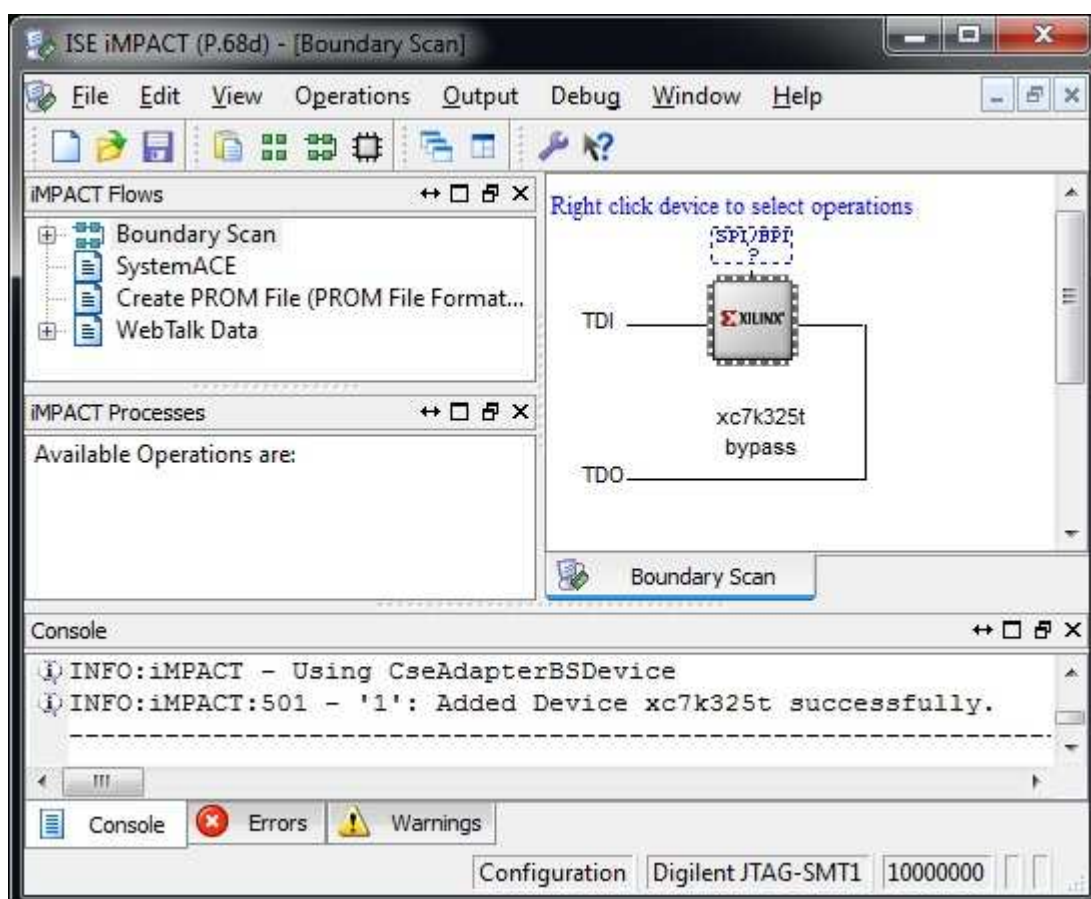

Figure 7 Programmer Environment
- Open iMPACT and download bit file to KC705 development board, as shown in Figure 7.